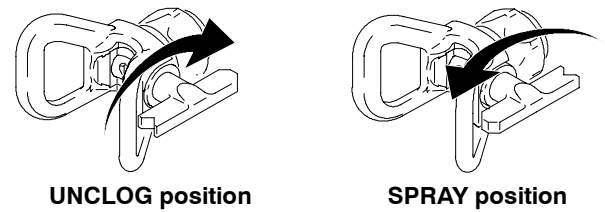

Fig. 3
2. Fig. 3. Rotate arrow-shaped handle to UNCLOG position.
4. Fig. 3. Put in-line valve trigger safety lever in SAFETY ON position (Fig. 1), and rotate arrow-shaped handle to SPRAY position.